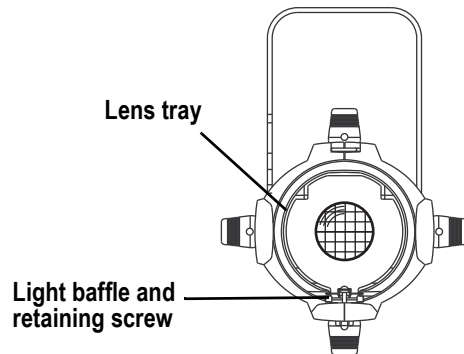

Figure 12
- Step 1: Loosen the screw at the front of the baffle. See Figure 12.